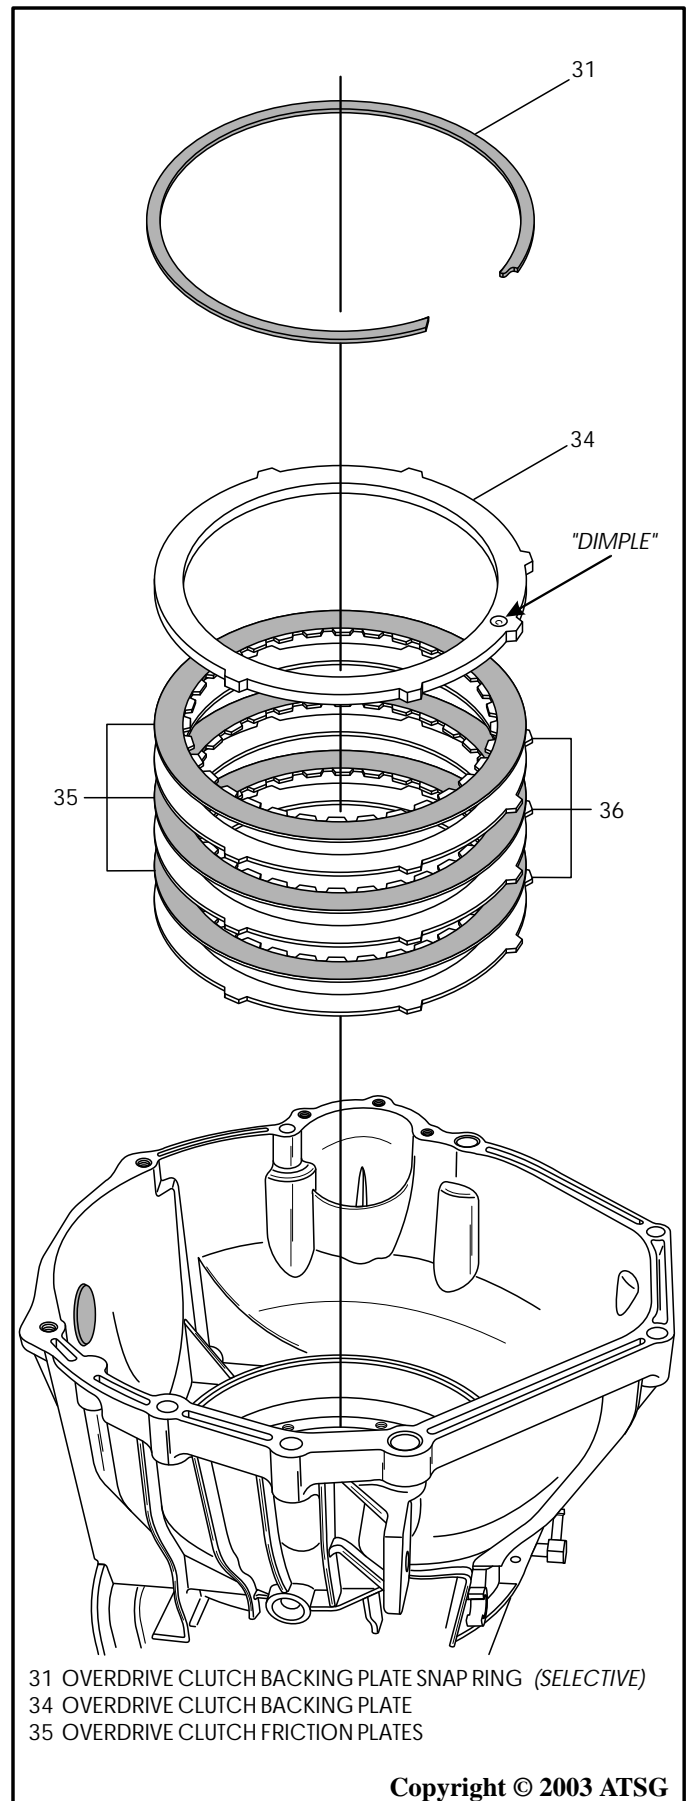

Figure 181
20. Install the overdrive clutch pack into the case, as shown in Figure 181, beginning with a steel plate and alternating with friction plates, until you have installed the proper amount.
21. Install the overdrive clutch backing plate on top of the last friction plate, with the "dimple" facing up and in the 12 o'clock (top) position in the case (See Figure 181).
22. Install overdrive clutch backing plate *selective* snap ring, as shown in Figure 181, and ensure that it is fully seated in case groove, with the snap ring gap at the 6 o'clock position.